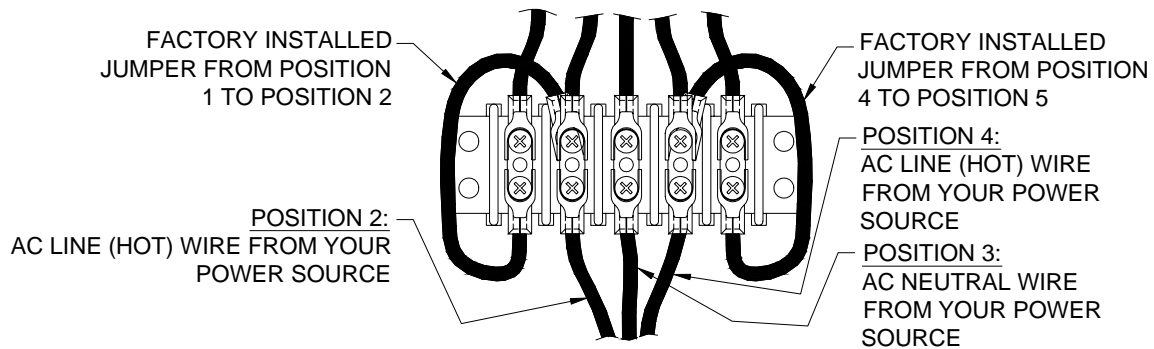

Figure 8 240 VAC Connections
3. If you are going to connect the scoreboard to a 240 VAC supply, connect one AC line wire to position 2, AC neutral wire to position 3, and the other AC line wire to position 4 of terminal strip T3 on the junction chassis according to figure 8.